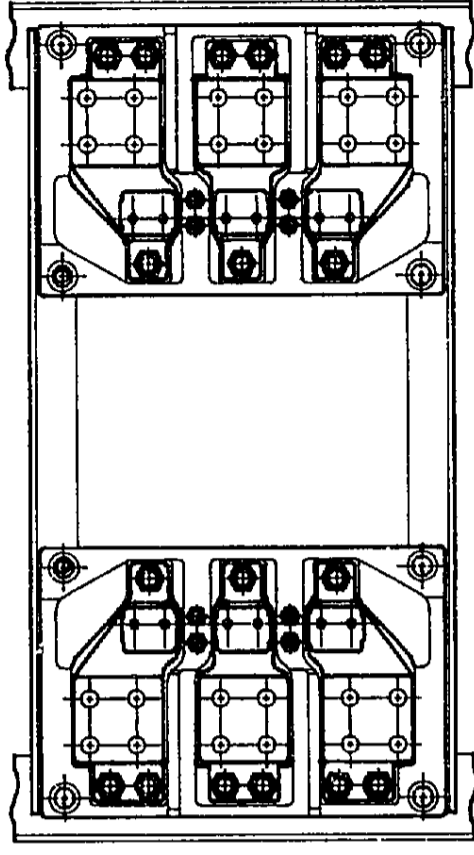
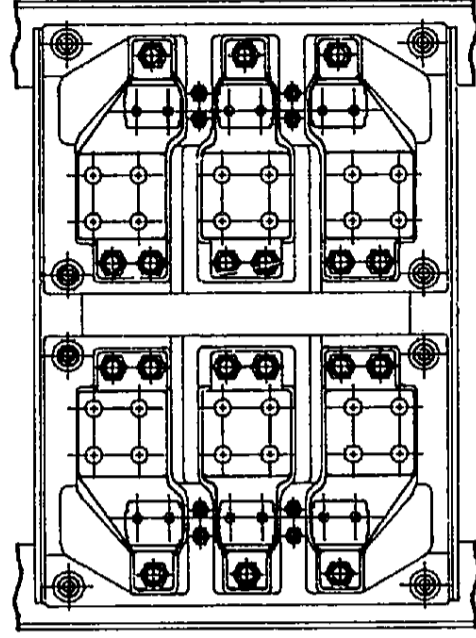

Figure 2
Figure 3
**NOTE:** Refer to figure 2 for catalog MBR9301. Figure 3 for catalog MBR9302. Remove four 3/8 x 1-1/2" hex head bolts, nuts and washers (Item C, Fig. 2 & 3) and re-use them to mount pan-and-block assembly to support angles. Tighten mounting bolts and nuts securely.